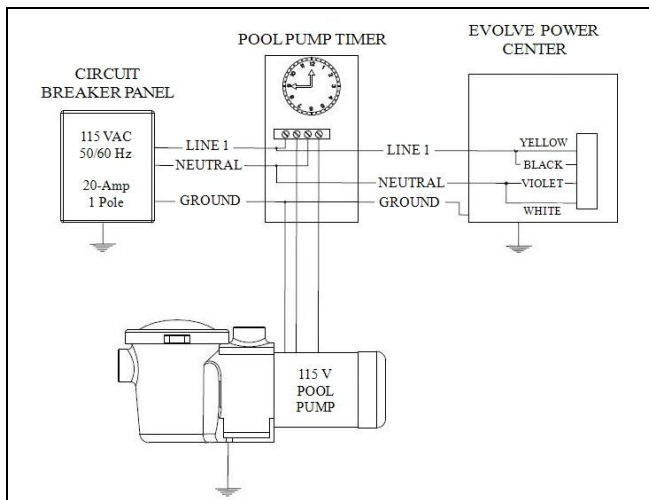

Figure 6
- See **Figure 6** for basic wiring to equipment.